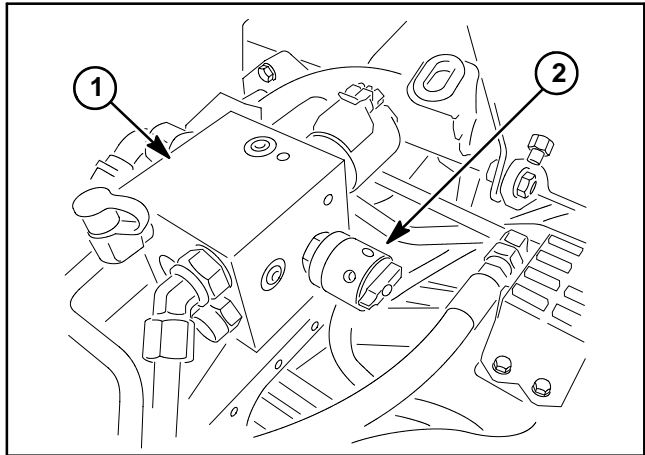

Figure 11
3. Locate the reel speed control and backlap lever on the hydraulic mow manifold (Figs. 11 and 12). Rotate the reel speed control to position "1" and the backlap lever to the R (backlap) position.